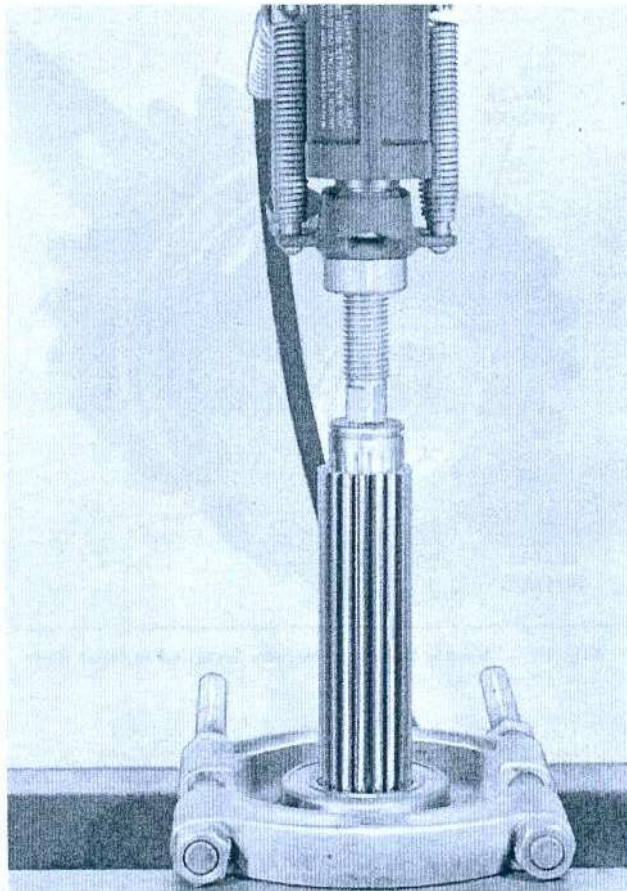

Fig. 14 - Removing Rear Bearing From Main Shaft
- a. Inspect the rear bearing on shaft. If worn or damaged, press old bearing off the shaft over the long splined end of shaft, as shown in Fig. 14.
- a. Inspect the rear bearing. If damaged or worn, press old bearing off shaft over the long splined end, as shown in Fig. 14.